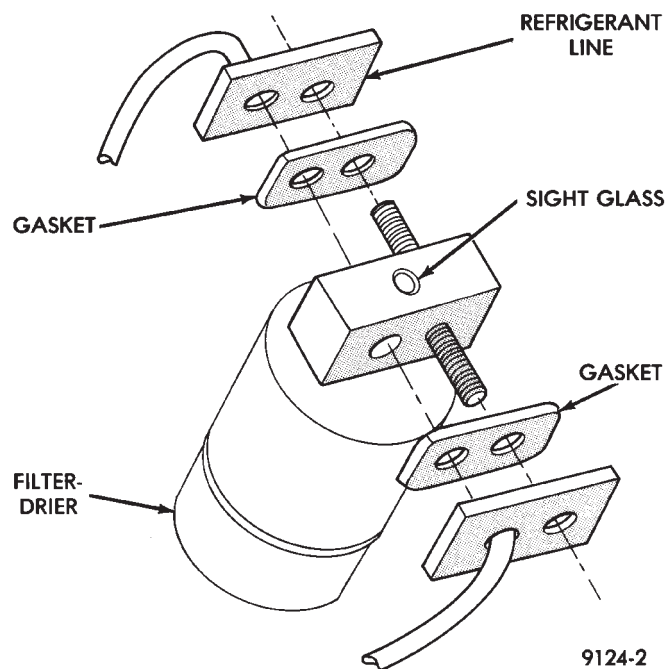

Fig. 16 Filter-Drier—Typical
- (1) Remove the vehicle jack.
- (2) Remove the two high pressure refrigerant lines from the sides of the filter-drier assembly (Fig. 16). Then carefully separate lines from filter-drier. Discard the old gaskets.